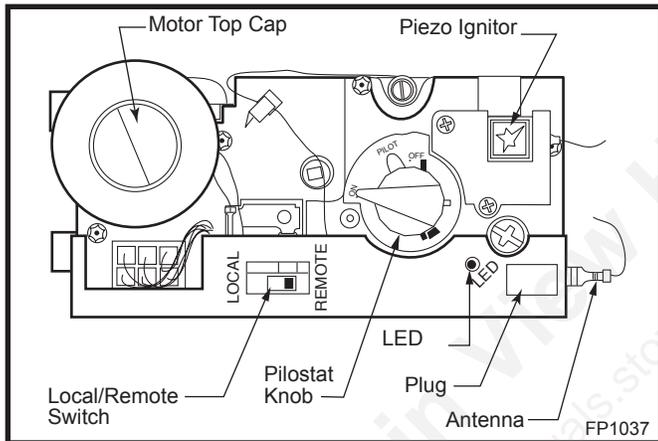

Fig. 60 Comfort control valve.
1. If the manual switch is in remote position, switch it to LOCAL. (Fig. 60)